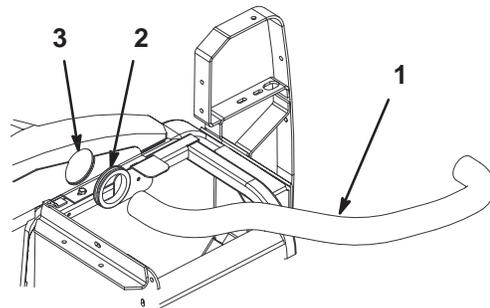

**Figure 12**
**IMPORTANT:** There are two types of bumpers. Figure 11 shows the extended bumper. Figure 12 shows the recessed bumper.